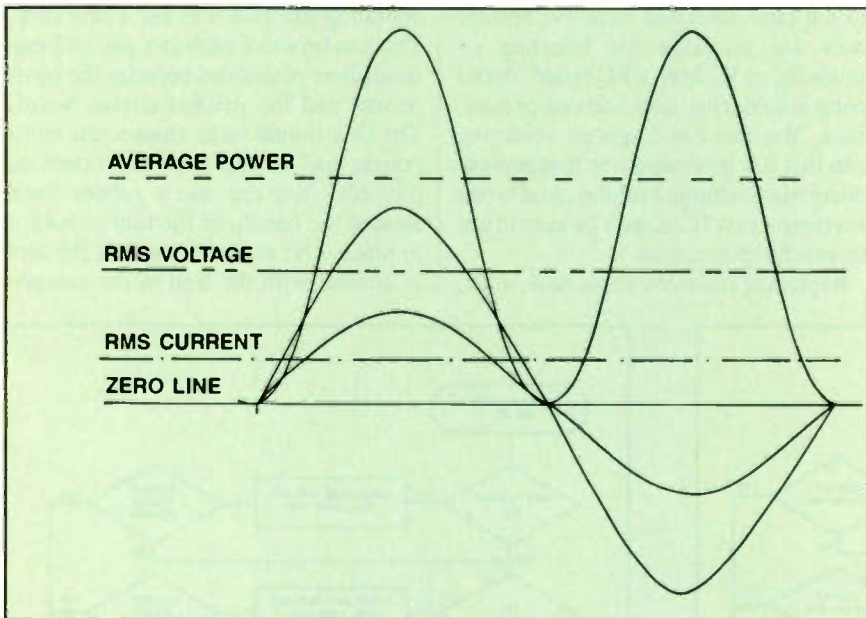

Figure 3. The rms values of voltage and current are shown as straight lines parallel to the zero volts and amps line. In other words, they are dc values.
Figure 3 shows the same illustration with the rms values of voltage and current marked. They are shown as straight lines parallel to the zero volts and amps line. In other words, they are dc values.
It should not be necessary to make these adjustments because they are done at the factory. Furthermore, the adjustments are held in place by lock screws. (See Figure 3.) Under conditions of extreme and repeated vibration, however, these screws may become loose. This condition is more likely to occur with portable and auto CD players.
**Figure 3.** It should not be necessary to make operating adjustments because they are done at the factory and are fastened by lock screws. Under conditions of extreme and repeated vibration, however, these screws may become loose.